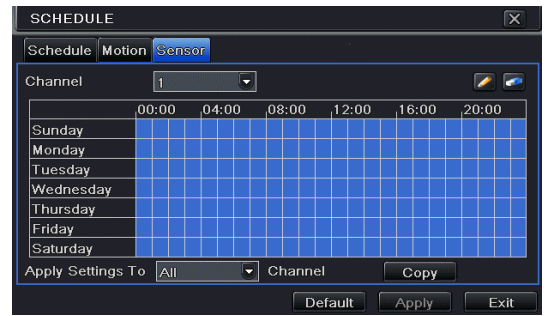

Fig 4-18 Schedule Configuration-Sensor
Step1: Enter into Menu→Setup→Schedule→Sensor tab. Refer to Fig 4-18: